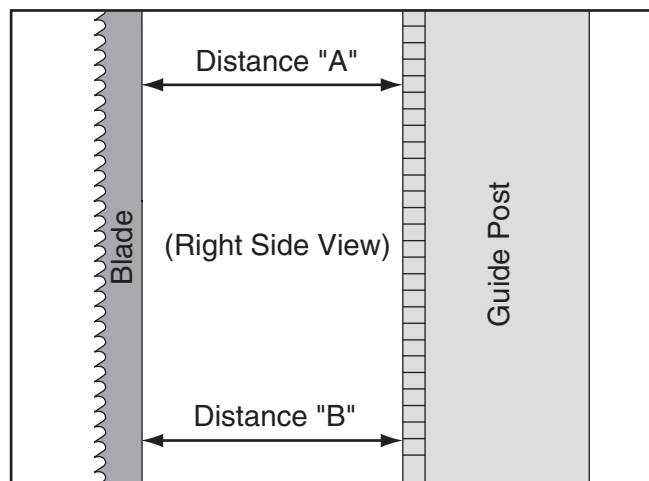

Figure 105. Example of measuring distance between rack and blade at top of guide post.
4. Measure the distance "A" between the top front face of the guide post rack and the back of the blade (see **Figure 105**).
5. Measure the distance "B" between the bottom front face of the guide post rack and the back of the blade (see **Figure 105**).